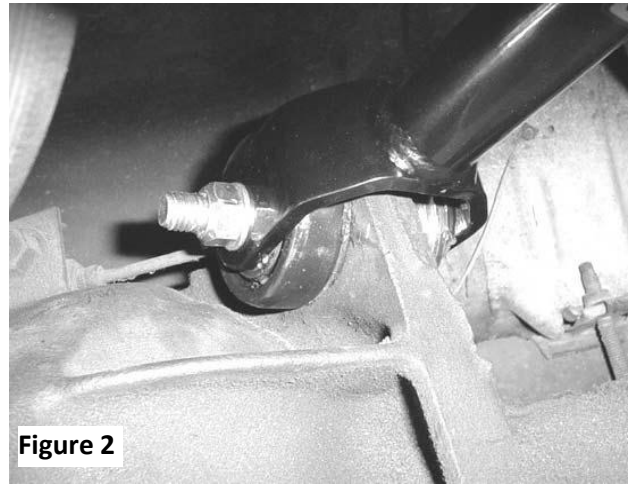

Figure 2
1. Install the polyurethane bushing into axle housing, facing the same direction as stock. **Figure 2**